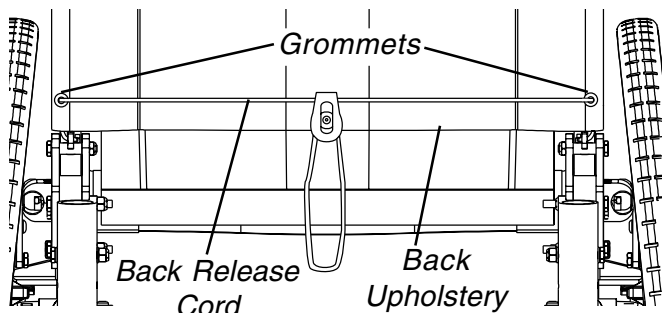

FIGURE 4 - REMOVING/INSTALLING/ADJUSTING THE BACK RELEASE CORD
REMOVING/INSTALLING/ADJUSTING BACK RELEASE CORD (FIGURE 4)
2. Thread one (1) end of back release cord through cord lock.
4. Thread one (1) end of the back release cord through a grommet in the back upholstery as shown in FIGURE 4.
7. Position the eyelet onto the lower back cane bolt as shown in FIGURE 4.
9. Thread one (1) end of the back release cord through an eyelet on the back cane as shown in FIGURE 4.